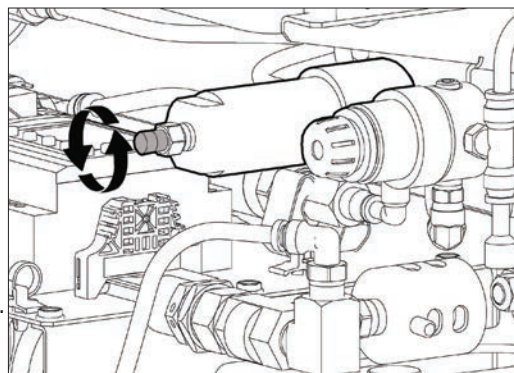

Figure 5: Bleed Screw
1. Push the power switch to the ‘OFF’ position (O) and unplug the cord set.
3. Loosen the bleed screw (See Figure 5) by turning counter-clockwise by hand, 2-3 turns until gas can be heard escaping.